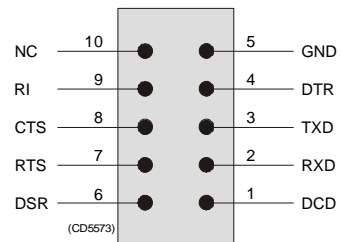

*Figure 17 DB-37 pin assignment*
- Refer to figure 17 and 18 for pin assignments.